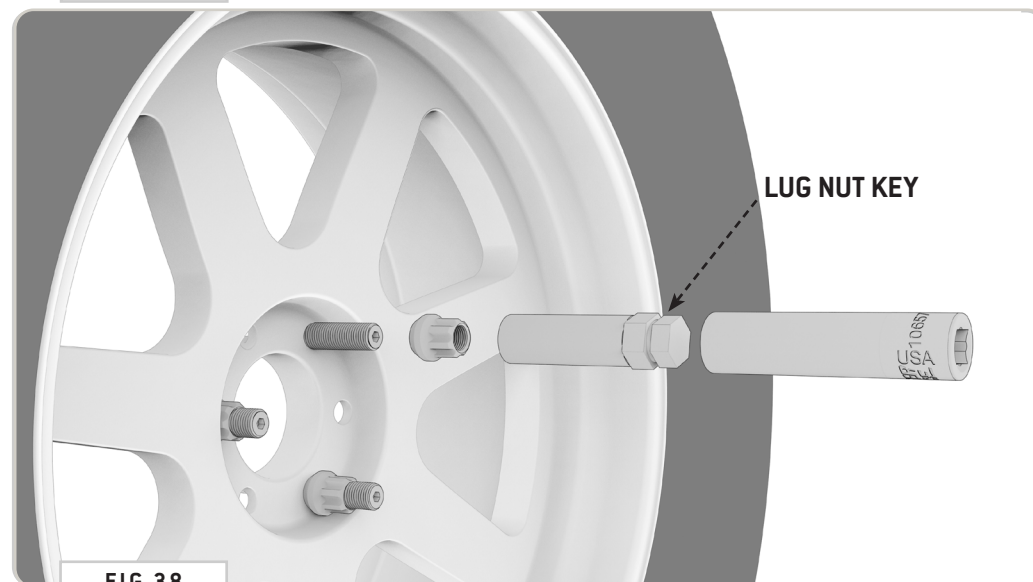

FIG 38
**8.2 Attach the Wheel:** Lift your wheel onto the carrier and fasten the **Lug Nuts** using the supplied **Lug Nut Key**. Tighten well with a **13/16" Socket** (FIG 38).